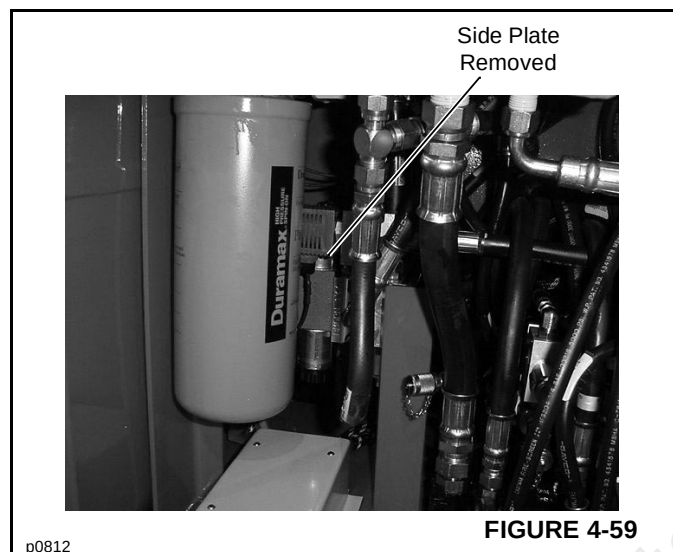

FIGURE 4-59
3. *Standard Outriggers* - Remove the side panel to gain access to the valve area (Figure 4-59).